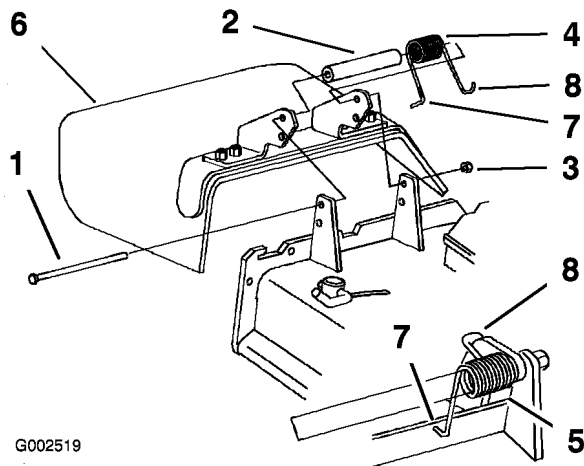

Figure 73
1. Remove the locknut, bolt, spring and spacer holding the deflector to the pivot brackets (Figure 73).
Note: Make sure the L end of the spring is installed behind the deck edge before installing the bolt as shown in Figure 73
5. Place the **J** hook end of the spring around the grass deflector (Figure 73).